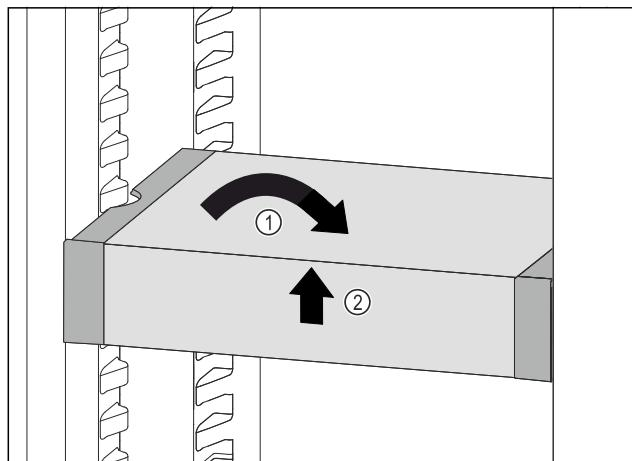

Fig. 89
- Set VarioSafe straight. Fig. 89 (1)
► Lift VarioSafe at the front. *Fig. 89 (2)*